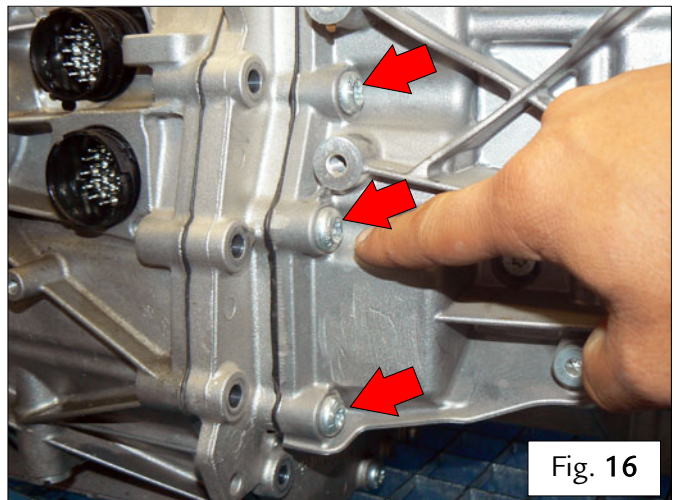

Fig. 16
- **DO NOT undo the indicated screws for any reason** – Fig. 16.